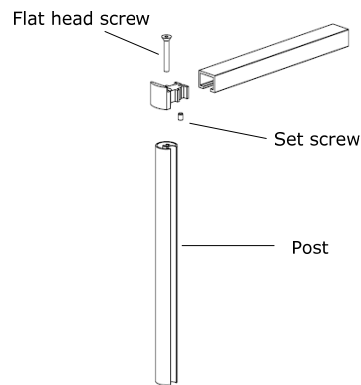

Figure 1
1. Determine location of bracket and identify the mounting hole location. **(See Figure 1)**